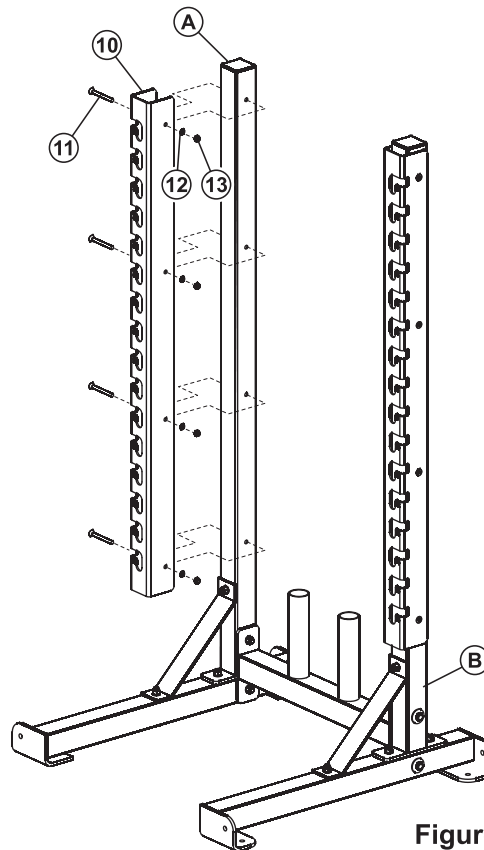

Figure 1
4. For OHDHR and OHDCR (Figure 1):